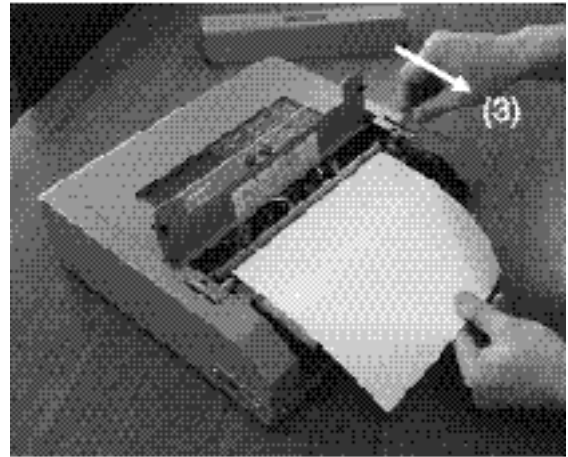

Figure 4
4. Pull the paper feed lever forward. Draw out the paper so that it will be a little past the front of the unit. See Figure 4.